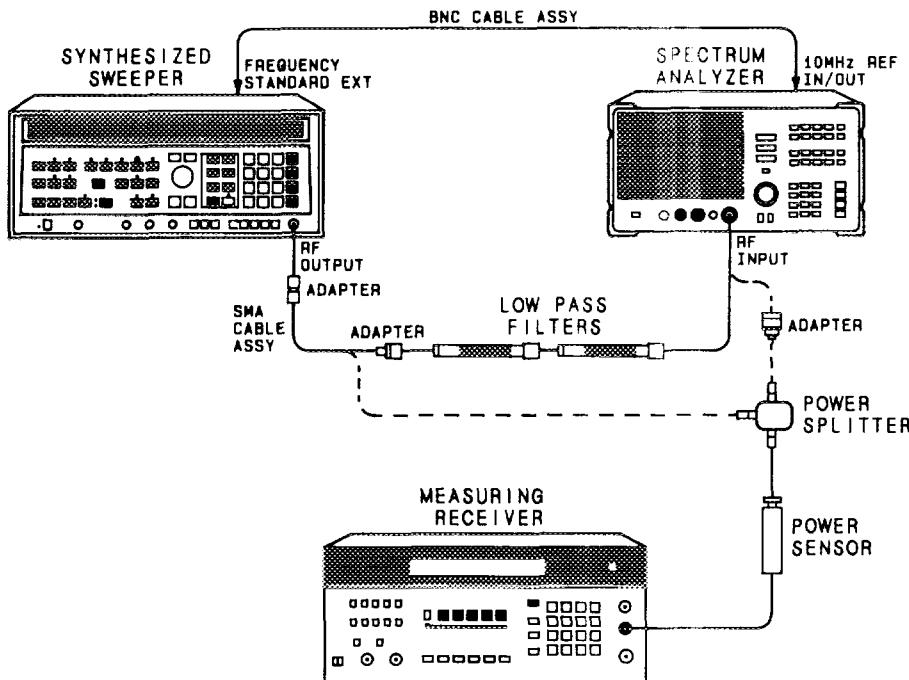

Figure 3-16. Second Harmonic Distortion Test Setup, Bands 1-4
8. Connect the equipment as shown in Figure 3-16 without the filters in place.
20. Connect the equipment as shown in Figure 3-16 with the filters in place.